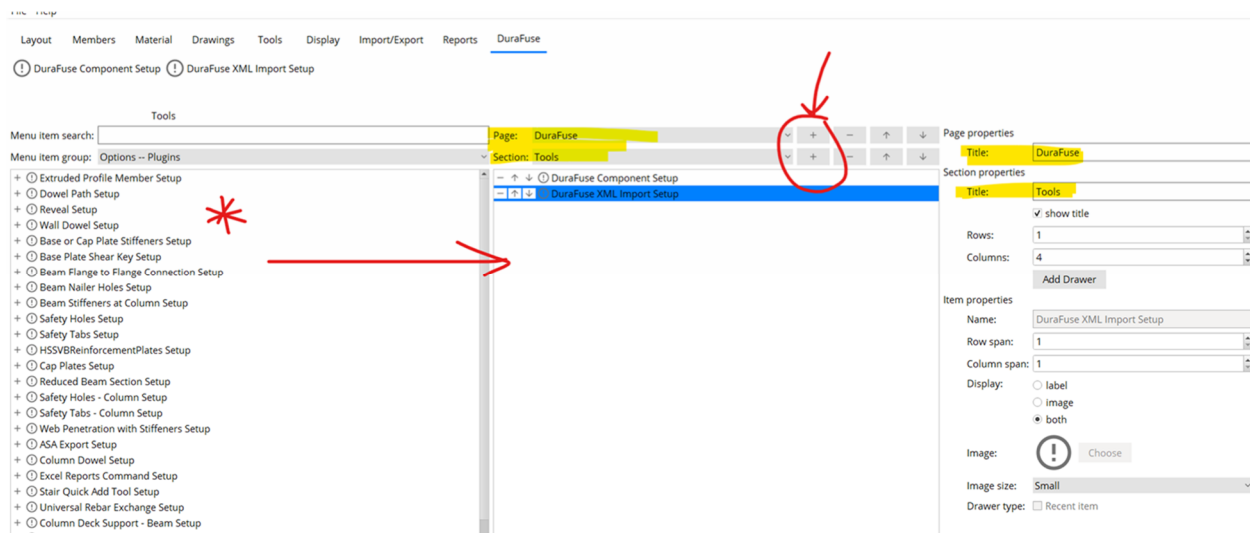

Figure 3-6. Add New Page with DuraFuse Frames Components
- 10) Create a new “Page” by using the “+” button next to *Page*. Give it a title (Figure 3-6).
- 11) Once the new page has been created, use the “+” button next to the DuraFuse components to move them to the right and add them to the new page (Figure 3-6).